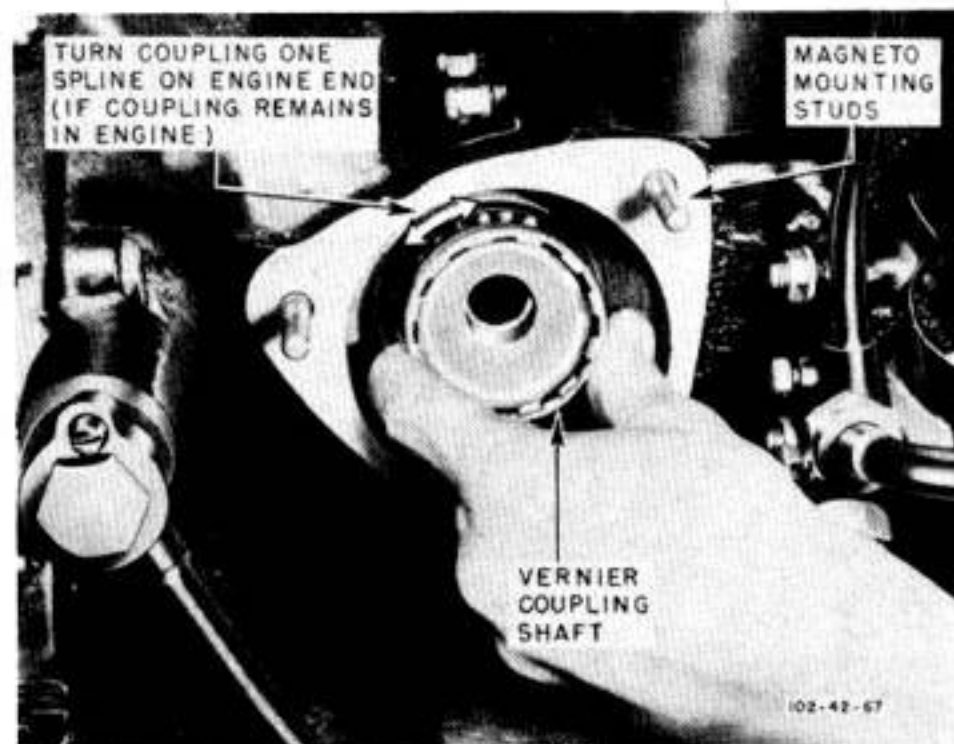

Figure 189—Vernier Adjustment
(1) If coupling remains in the engine, when the magneto is removed, turn coupling in the engine one spline in the same direction that the scribed line on the rotor varied from the timing line on the magneto housing when the engagement was made. (*See figure 189.*) (Approximately five splines on engine end of coupling constitute one tooth on rotor.)